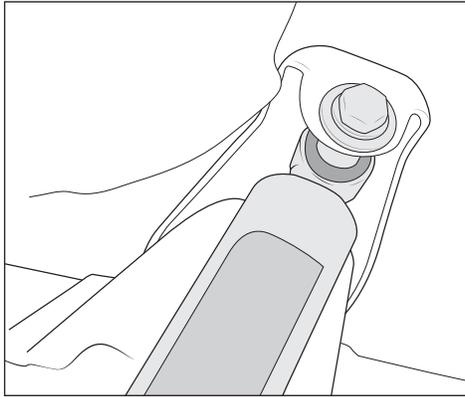

Figure 9
9. Install new rear shocks at upper mount using factory hardware (5100 PN 33-310480). NOTE: Refer to separate XP8100 big bore shock instructions if using those. Shock body sits at the top with AEV graphic facing outward at vehicle (Fig 9).